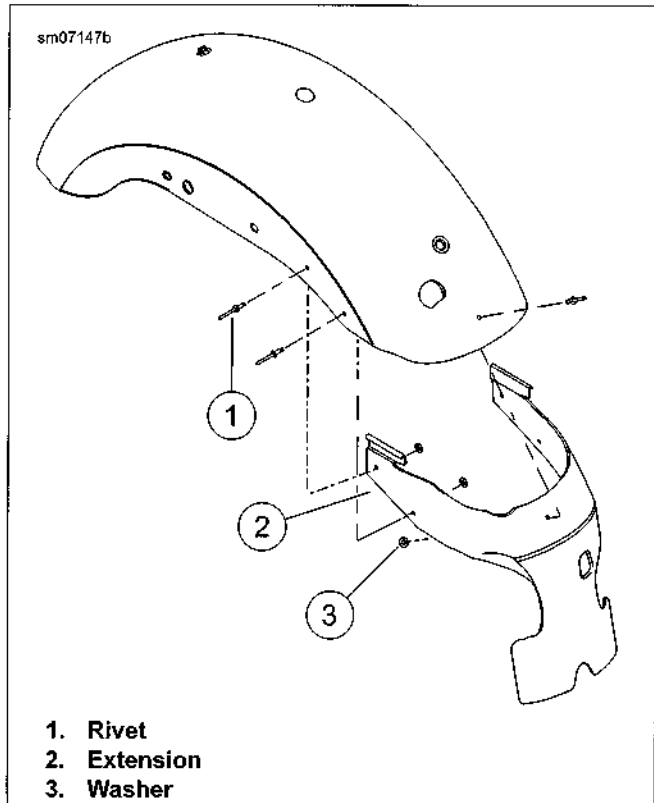

Figure 2-144. Fender Extension
1. See Figure 2-144. Drill out rivets (1) securing rear fender extension (2) to fender with a 1/4 drill bit.
2. Rivet fender extension to fender backed by a washer (3).